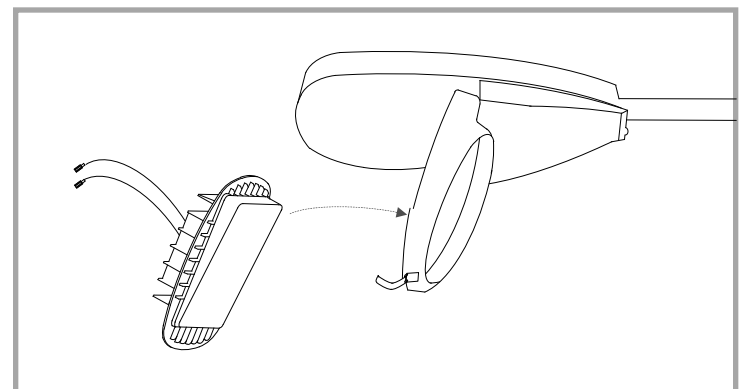

Figure 3: Install the DuraStreet LED light engine.
Step 3: Install The DuraStreet LED Light Engine (Figure 3)